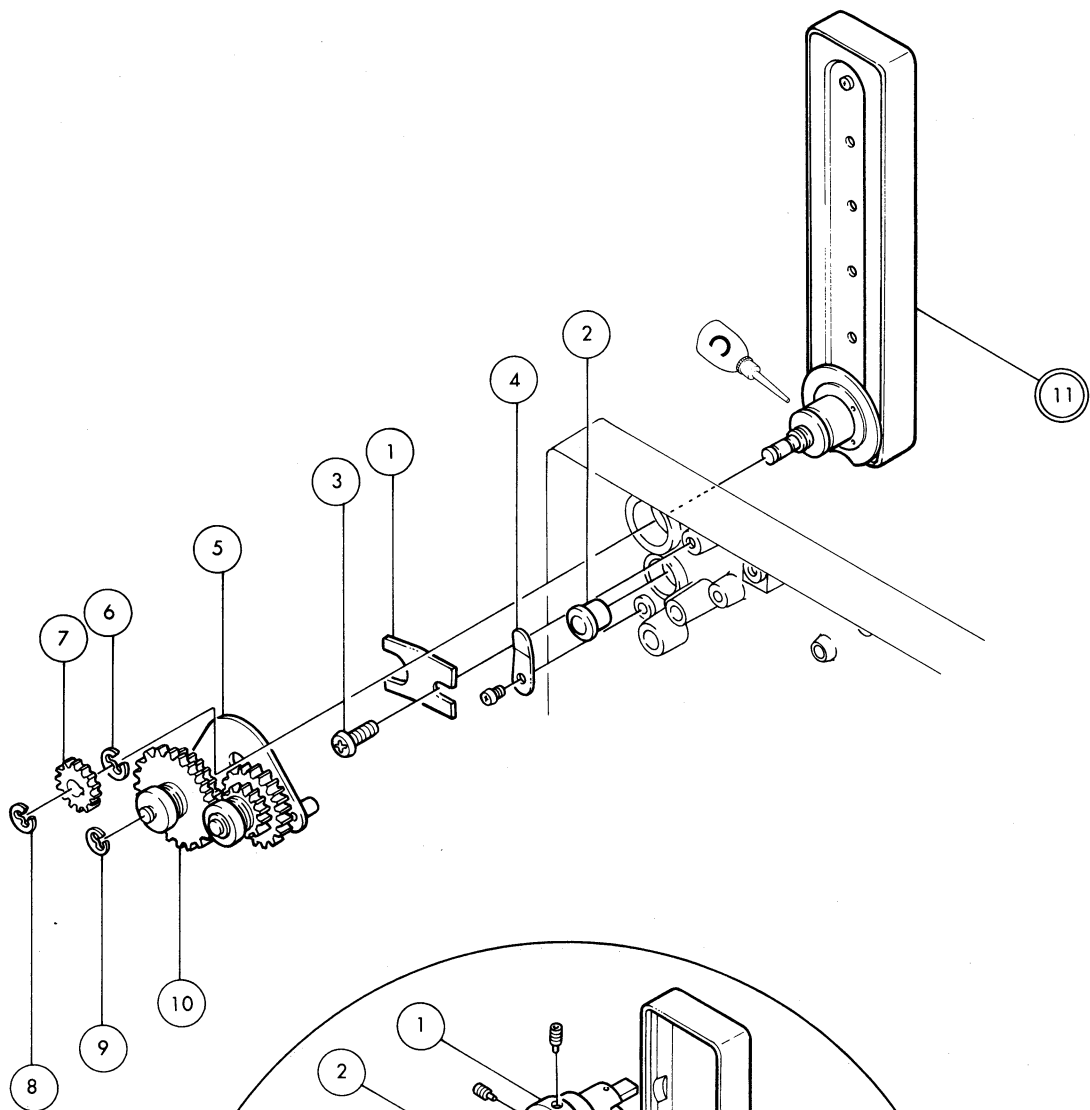

Fig 18
A. Disassembly Refer to Fig.18.
1. Remove (9) and take out (10).
2. Remove (8) and take out (7).
3. Remove (6) and take out (5).
4. Remove (3) and (1), and then pull out ((11)).
- └ Defective (1); There is a play between Front arm and body.
- └ Malfunction of (2), (4); Front arm won't lock.